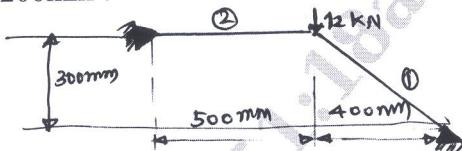

Fig.Q.6(a)
- 6 a. For the two bar truss shown in Fig.Q.6(a). Determine the nodal displacements. Take $E = 2 \times 10^5 \text{ MPa}$, $A = 200 \text{ mm}^2$. (08 Marks)